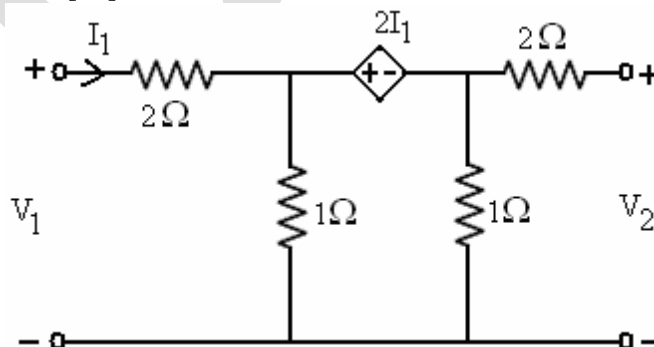

Figure. 3
2. Determine Y – parameters of the below (Figure. 3) network. Hence determine the h-parameters. [15]